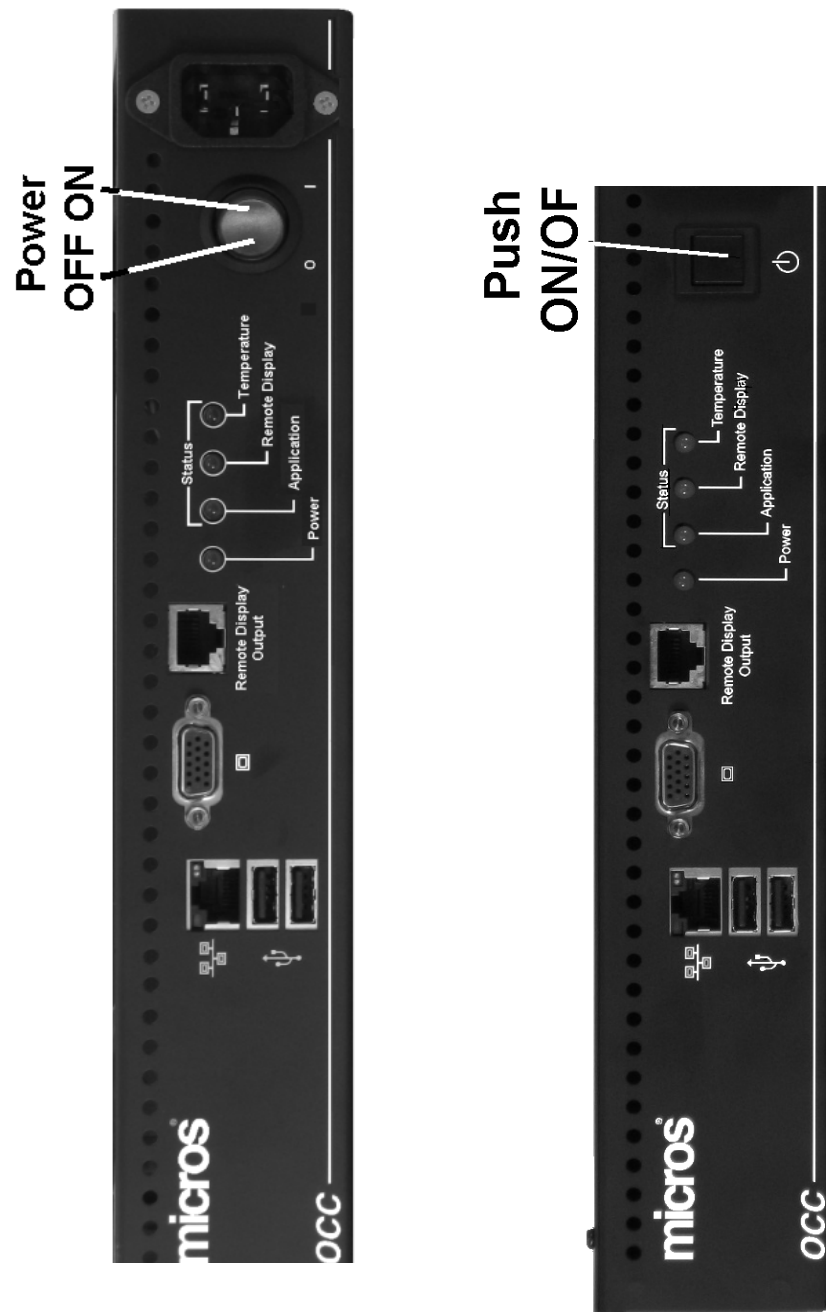

Figure 3-2: OCC Power Button and IO Panel (MVT and Production Units)
Figure 3-2, on the next page shows examples of DVT and MVT units that use an illuminated AC rocker switch (left) and the production version with a non-illuminated push-button switch (right).
- When the Power LED is Green, indicates OCC power is ON. DVT and MVT units may also use a lighted AC switch like that shown in Figure 3-2.
2. On DVT or MVT I units turn the illuminated rocker switch to the ON (I) position. For MVT II or production units, push the black button. See Figure 3-2.